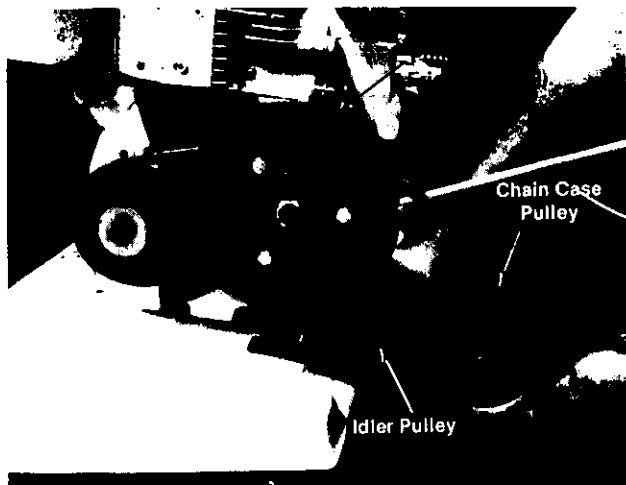

FIGURE 32.
2. Push forward on the idler and lift belt off of chain case pulley, idler pulley and variable speed pulley. See figure 32.